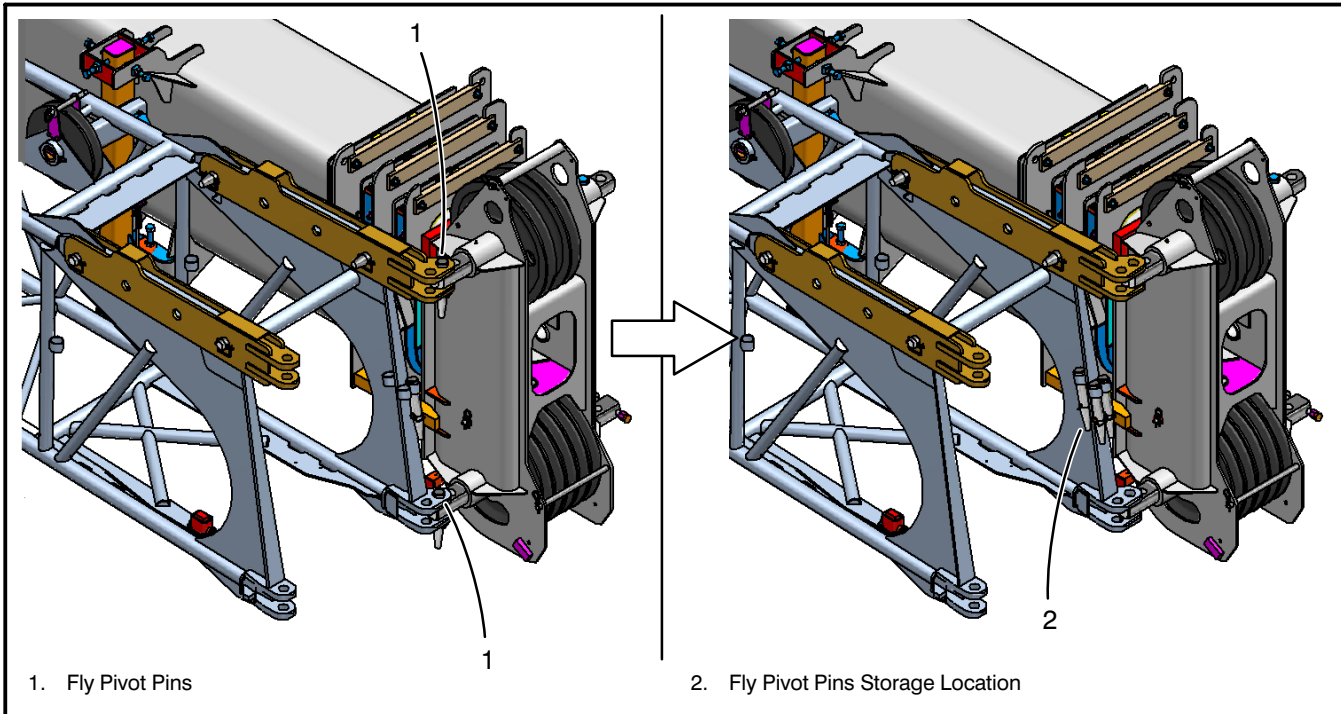

Figure 4–158
28. Remove two fly base connecting pivot pins from the right side of the boom. Refer to Figure 4–158. Store pins and keepers in their storage location on the rear right side of the fly base section.